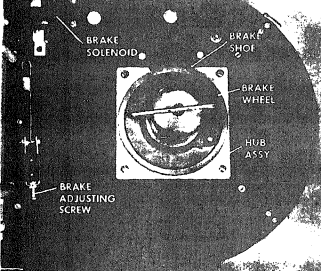

Figure 13. Brake Mechanism
The wire reel mounts and locks on a hub assembly (Fig. 13) which also provides a braking surface (wheel) for the shoe of the drag brake. The operation of the brake is determined by the position of the PUSH-PULL switch. In PUSH position, the brake remains engaged and the brake shoe drags on the brake wheel of the hub to control overrun of wire from the reel. In PULL position, the brake is electrically released when the trigger switch is pulled to eliminate drag so that the reel is free as the wire is pulled by the gun. As soon as the trigger is released, the spring loaded brake re-engages with the brake wheel of the hub to stop wire pay-out.
e. Check brake (Fig. 13) for proper adjustment.
c. Turn the brake adjusting screw (Fig. 13) until the brake shoe makes light contact with the wheel.